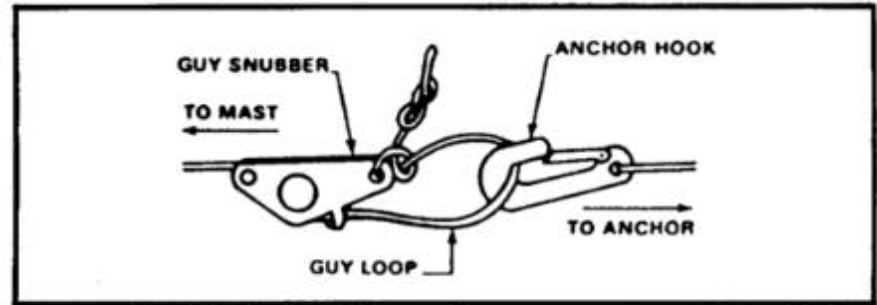

Figure 3-6. Attaching guy loops to ground anchor.
- (1) Connect the free guys to the remaining guy stake assembly (Figure 3-6) and tighten the guys.
- (2) Adjust all the guy ropes evenly. Check for vertical position by comparing the mast with a building, pole, or other vertical object.